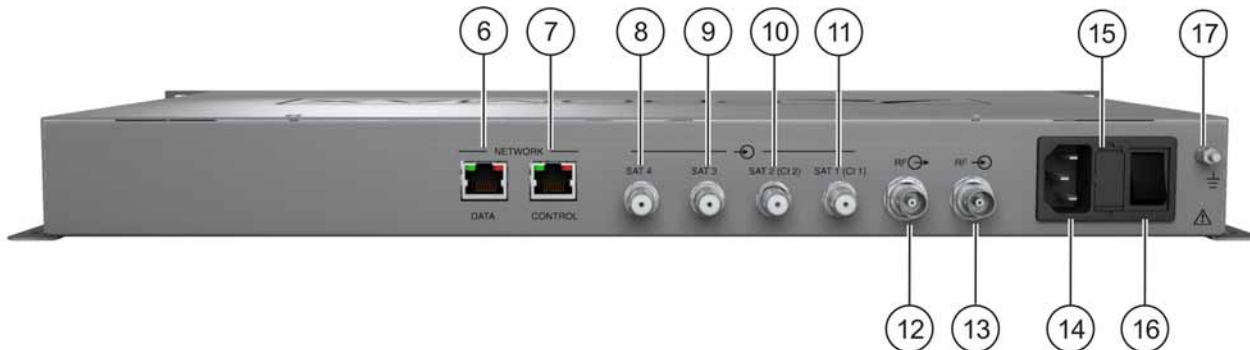

Figure 3.
- 2** Check connections. The Ethernet cable must be connected to the control input (see figure 3 – (number 7)). It is recommended to try a ping on the command-line interface to confirm they are on the same network range and communication between them is possible.